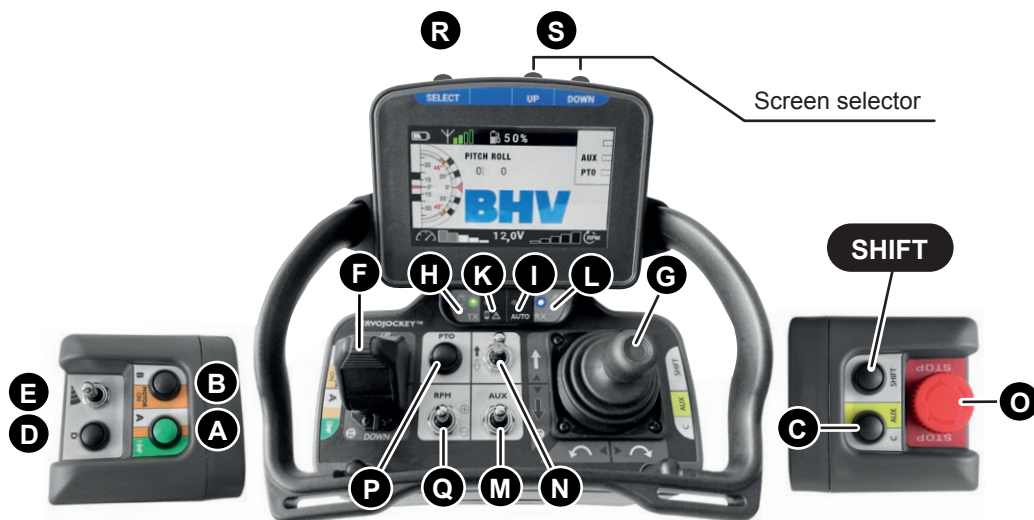

Fig. 13
Check that the lever (FIG. 17) is in the upper position. This lever reverses the motion. To move the machine forward, move the joystick (G in Fig 13) gradually and continuously forward. The machine will advance. The joystick controls both speed and direction, allowing for easy, one-finger control.
- Press the "SHIFT" button (Fig.13) for 2 seconds. The machine begins to follow the defined path